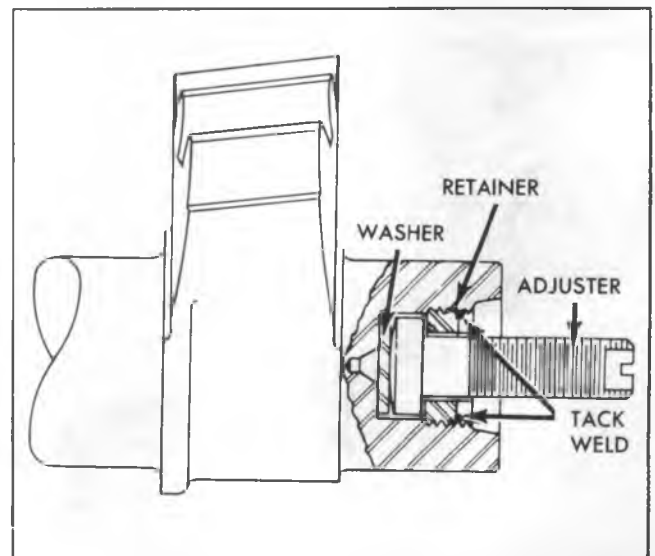

Fig. 10--Lash Adjuster Screw Installation
the pitman shaft (fig. 10). Break the tack-weld and withdraw the retainer from the shaft. Remove the adjuster screw and lockwasher.
3. Screw the retainer in tight and then back off 30 degrees to obtain the correct adjustment. Tack-weld the retainer at the points shown in Figure 10.